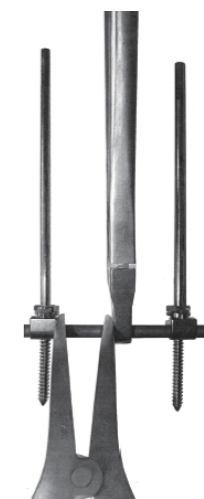

Fig.4b
- After anterior distraction is completed, a parallel distraction operation is performed in conjunction with the turn pliers to restore vertebral height and reduce pressure on the disc (Fig. 4b).